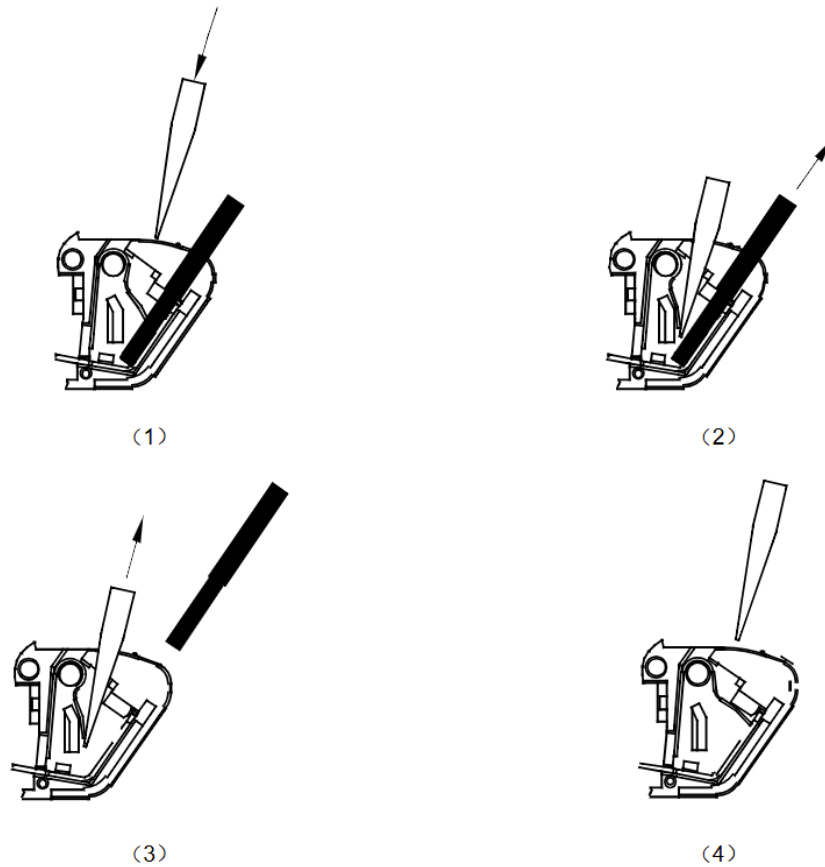

Figure 5
- How to remove the wires in Figure 5.